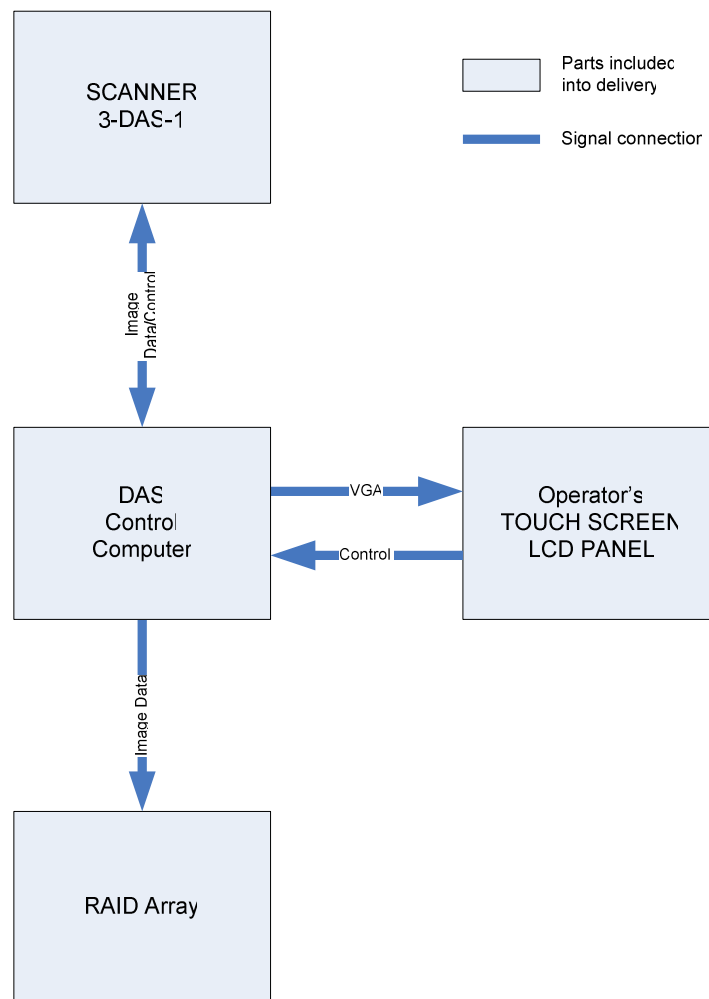

Figure 3: Flowchart of 3-DAS-1 scanning system.
- RAID array is high-performance protected RAID array of huge capacity to gather image data during the flight mission and their transportation for processing to your office. (Figure 3)